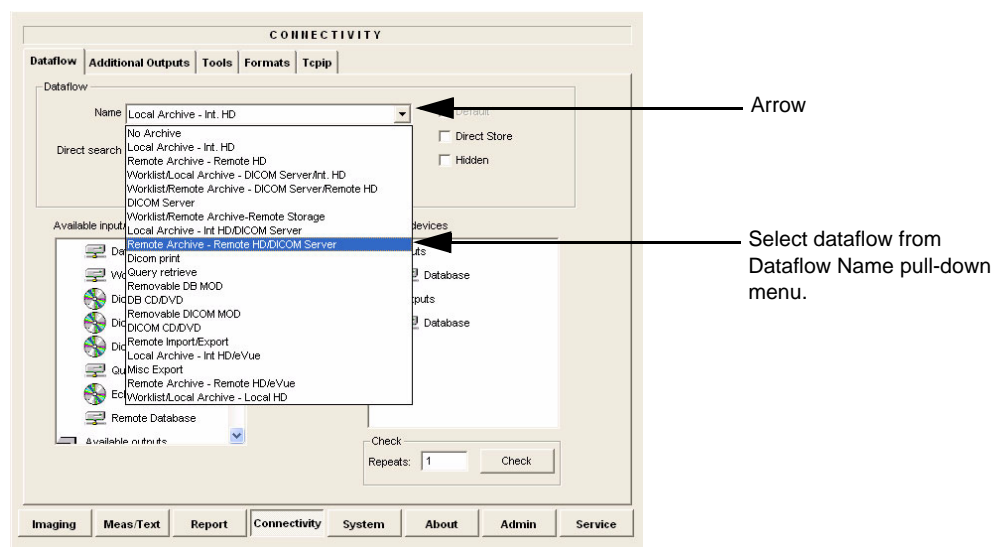

Figure 3-115 Select Dataflow
- 4.) Select the arrow to the right of the Name field to list all dataflows in a pull-down menu, see Figure 3-115.
- 5.) From the Dataflow Name pull-down list, select the dataflow you want to configure - see Figure 3-115.